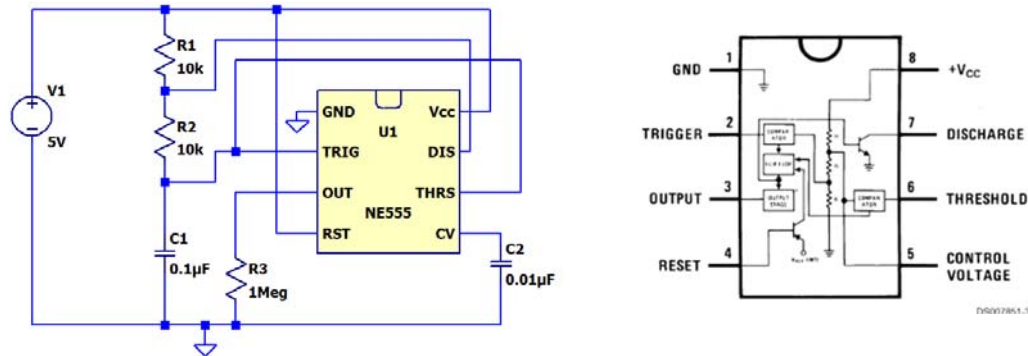

Figure D-4.
- Wire the circuit in Figure D-4 in *LTspice*.